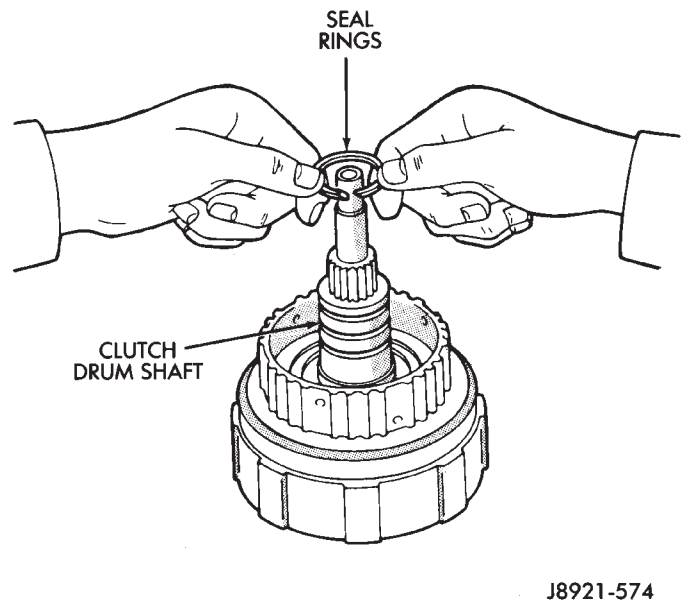

Fig. 8 Removing Clutch Drum Seal Rings
(16) Remove three seal rings from clutch drum shaft (Fig. 8).